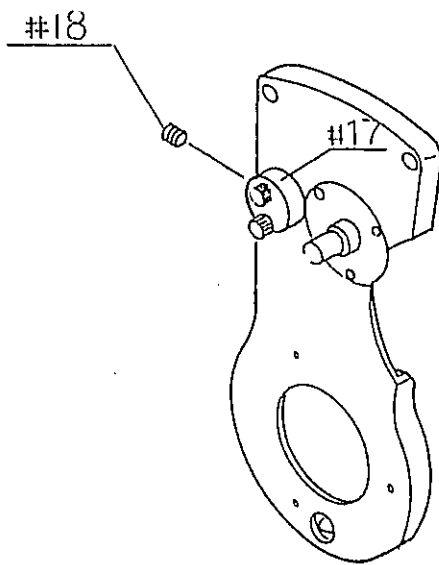

FIG. 3
1. Adjust the lateral movement of the turret with a screw U 4x4 (#18) or the side of the click mount (#17). (See Fig. 3)
(2) Vertical adjustment
3) Apply ultraviolet adhesive (photo-curing resin 3021) to #20 ~ #22. (See Fig. 3)